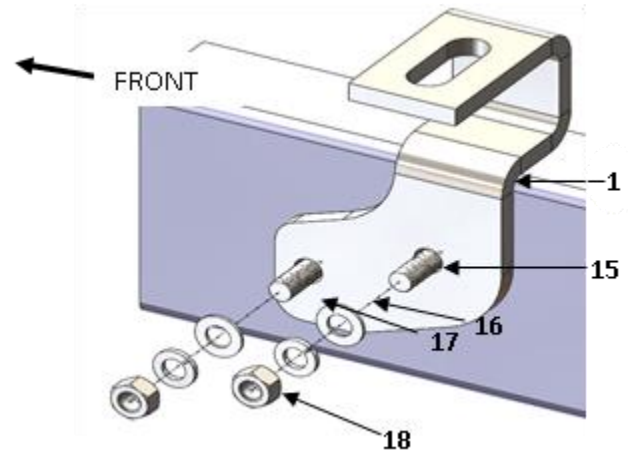

Figure: 3
2. Position the driver side front bracket #1 against the truck frame so previously installed U-bolt extends out through the two holes in bracket. Bolt bracket loosely in place as shown on Figure 3. Repeat installation procedure on passenger side of truck using the passenger side front bracket #2.
3. Position the driver side rear bracket #3 against outer surface of truck just forward of the round tube cross member welded into the frame. There will be a hole near the center of the frame where the positioning pin in bracket will be inserted. Place one of the rear mount straps #5, against the inner surface of the truck frame and bolt in place with 1/2" bolts #12. These bolts will go above and below the truck frame and connect bracket #3 and strap #5 together. See Figure 3. Repeat installation procedure on driver side of vehicle using the driver side rear bracket #4 and remaining rear mount strap #5.